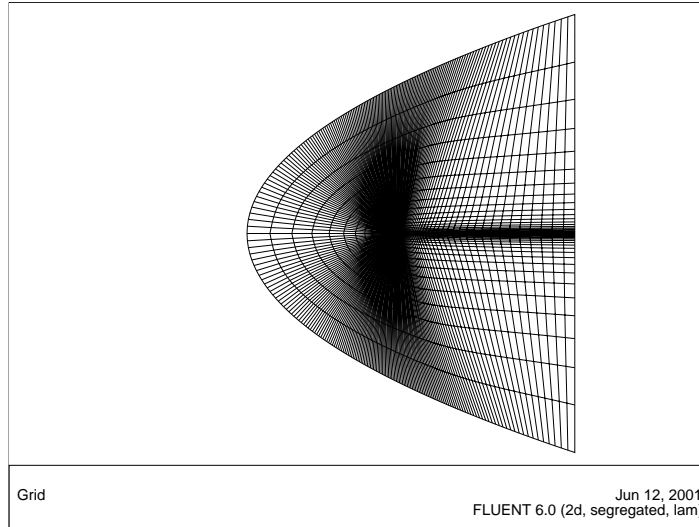

Figure 3.2: The Grid Around the Airfoil
- (a) Display the grid with the default settings (Figure 3.2).